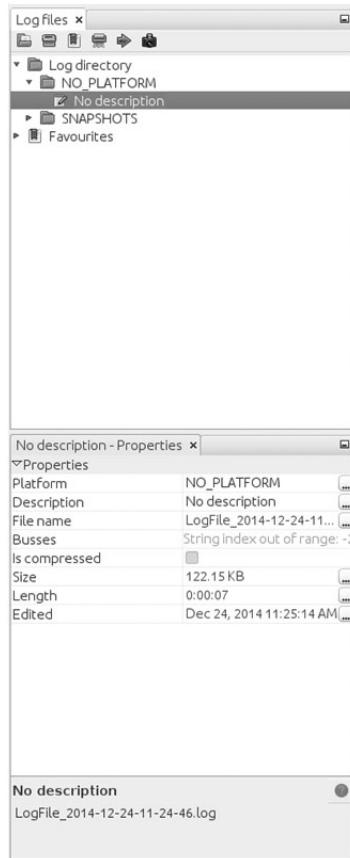

Figure 5-5: Right pane of Log files tab settings
To record CAN packets with Kayak, first click the Play button in the Log files tab ①. Then drag one or more buses from the Projects pane to the Busses field of the LogOutput Window tab ②. Press the Record and Stop buttons at the bottom of the LogOutput window ③ to start or stop recording. Once your packet capture is complete, the logging should show in the Log Directory drop-down menu (see Figure 5-5).
Other than some metadata (PLATFORM, DESCRIPTION, and DEVICE_ALIAS), the log is pretty much the same as the one captured by the can-utils package: ❶ is the timestamp, ❷ is your bus, and ❸ is your arbitration ID and data separated by a # symbol. To play back the capture, right-click the **Log Description** in the right panel, and open the recording (see Figure 5-5).